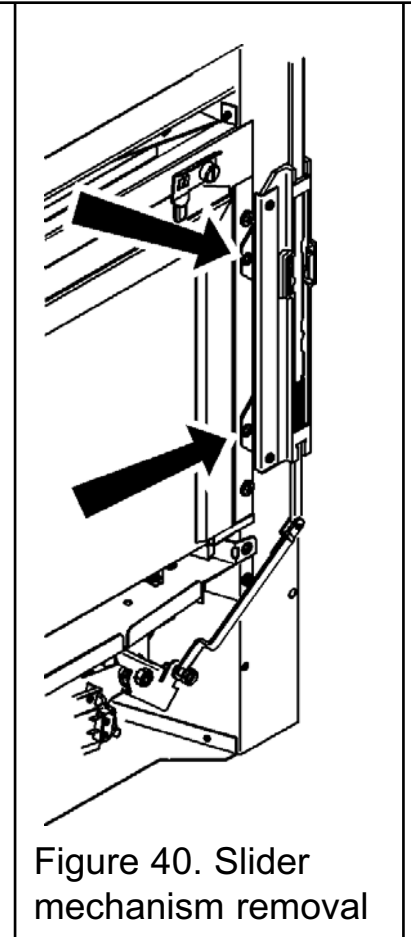

Figure 40. Slider mechanism removal
3. Detach the slide unit by removing two screws securing it to the convection box flange (See figure 40).